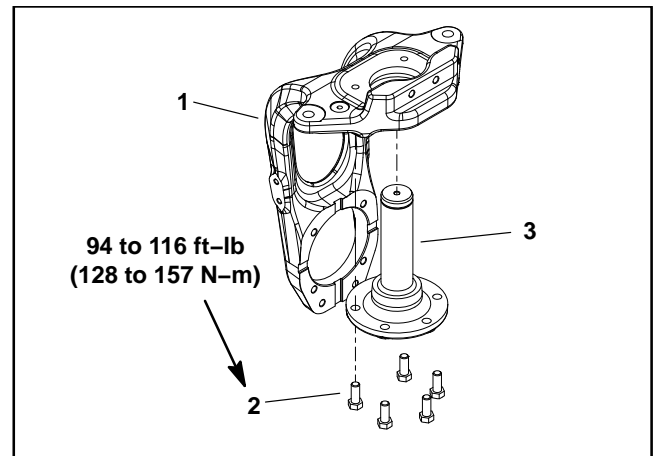

Figure 23
11. Remove the flange head screw (item 21), spindle cap (item 20) and retaining ring (item 19) that secure the steering fork shaft into the axle tube. Slide the steering fork out of the axle tube. Locate and retrieve thrust washers (items 7 and 11) from steering fork spindle.
12. Thoroughly clean the steering fork spindle. Inspect the shaft for wear and replace steering fork spindle if shaft is worn or damaged (Fig. 23). If spindle was removed from steering fork, torque cap screws from **94 to 116 ft-lb (128 to 157 N-m)** during assembly.